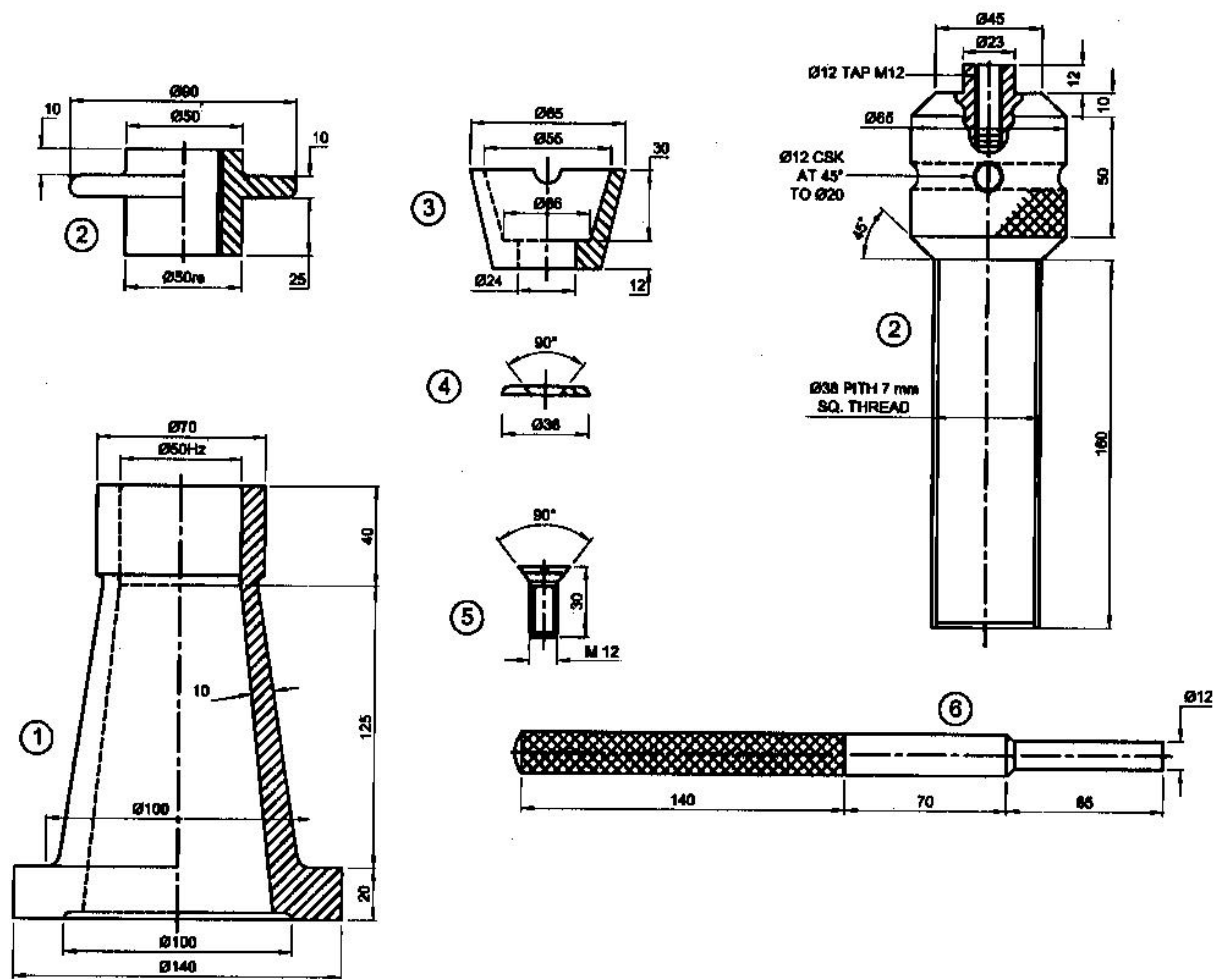

Figure-5
- Q. 4** Figure-5 shows the details of “Screw Jack”. Assemble the parts and draw Front view and Top view of assembly. **14**